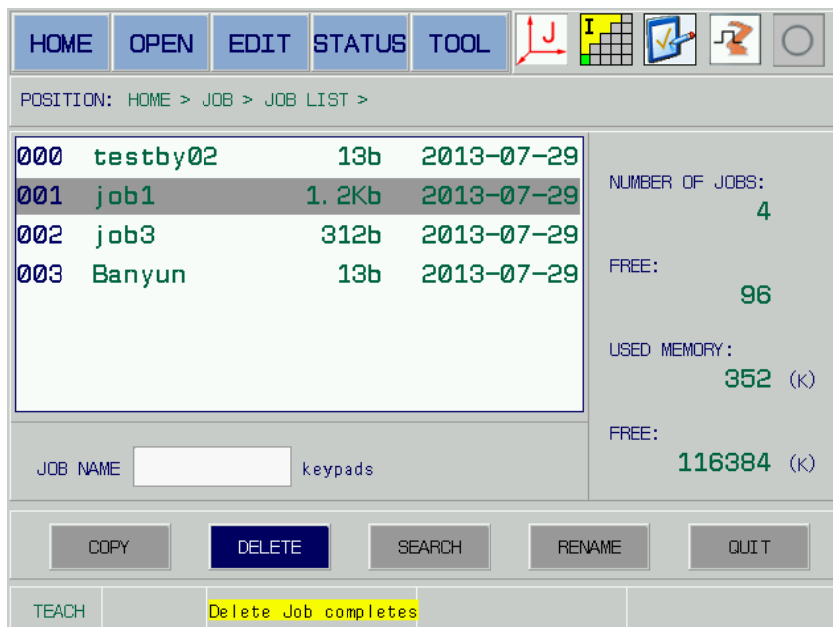

Fig. 5-13
4. Move the cursor by left/right direction button, select [YES], and then delete the program line of the current cursor placed, the file list will refresh; if [NO], retreat from the DELET program interface; refer to the Fig. 5-13.